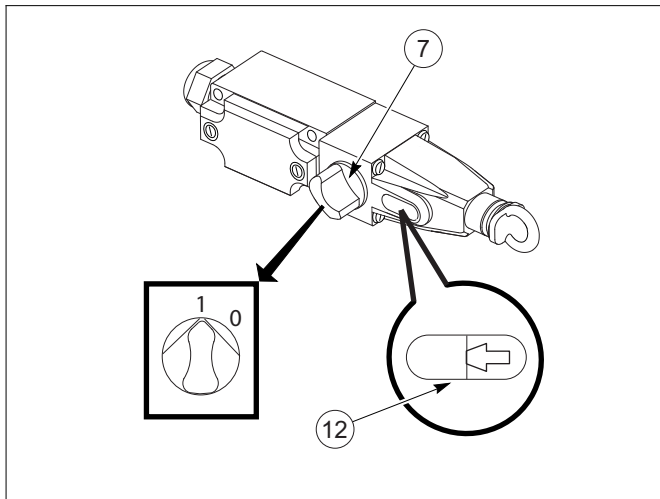

fig. 15 The cord tension is correct
See fig. 15.
8. Set turning knob 7 to the "1" position to activate the switch. See fig. 15.